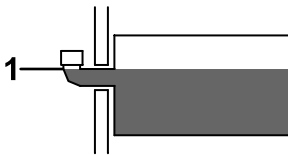

Figure 40
3. Remove the fill cap from the hydraulic reservoir (Figure 40).
4. Slowly fill the reservoir with BOSS high-performance hydraulic fluid to the bottom of the fill elbow (Figure 40).